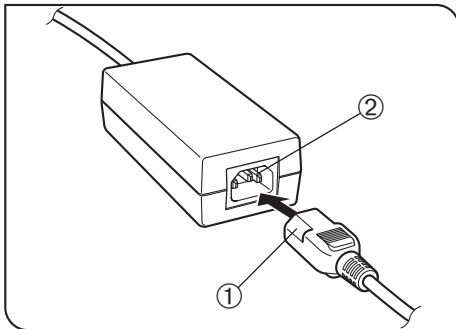

Fig. 8
2 Attaching the Power Cord (Figs. 8 to 10)
(Figs. 8 to 10)
Connecting to the AC adapter (Fig. 8)
1. Insert the connector ① of the power cord firmly into the input connector ② of the AC adapter (Fig. 8).